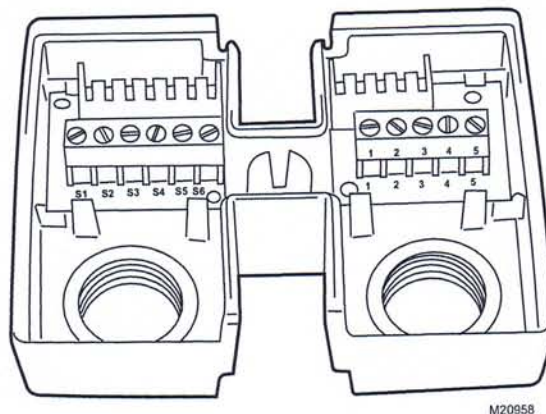

Fig. 10. Terminal block details.
6. Connect wires as appropriate to the terminal block(s). (See Fig. 10 and 11.)
See Fig. 10 through 26 for typical wiring details.
2. Check damper position and make sure that 24 Vac is present at the appropriate connections. (See Fig. 10.)